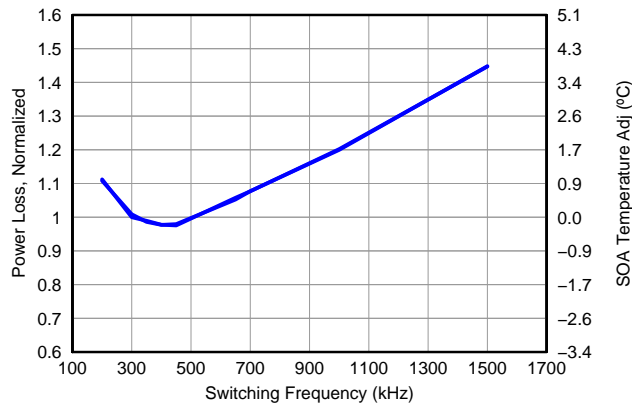

Figure 6. Normalized Power Loss vs Switching Frequency
- Normalized power loss for switching frequency ≈ 1.2 (Figure 6)